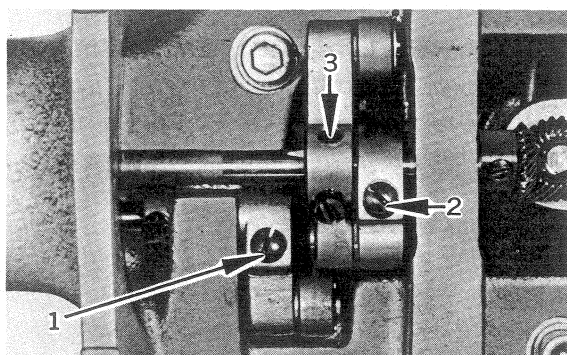

Fig. 14 277R
2. Loosen the set screw (1, Fig. 14)
1. Lay down the machine head toward the other side, and loosen the screw (2, Fig. 14)